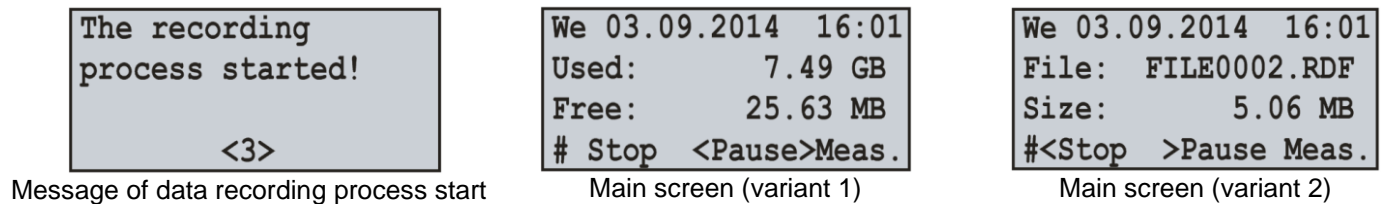

Figure 6.4 – Main menu view after start of data recording process
To start the process of data recording to the memory card it is necessary to select with the buttons ◀ (left) or ▶ (right) the menu item “Start”, then by pressing the button ■ (enter) to confirm the choice, on the data logger display there will be a message confirming the beginning of the recording process (Fig. 6.4) and LED indicator **RECORDING** will be on (Fig. 1.2 item 2). After 3 seconds the main screen (Fig. 6.4) will be shown on the data logger display.
On the main screen there will be alternatively shown information of the free and occupied space on the memory card (Fig. 6.4 – Main screen (variant 1)), as well as the name and size of the last recorded file (Fig. 6.4 – Main screen (variant 2)).